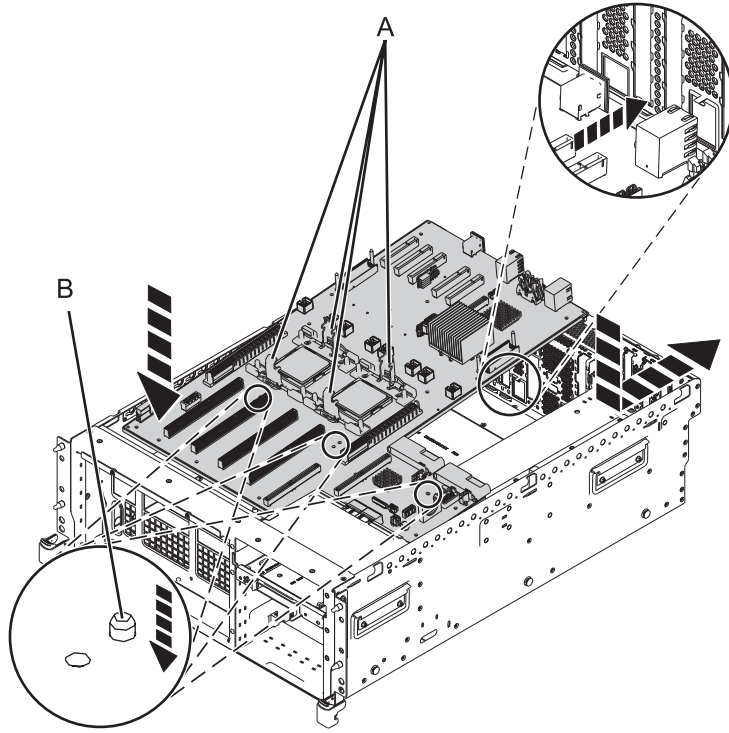

Figure 12. Installing the system backplane in the 8202-E4B or 8205-E6B
- a. Carefully grasp the replacement system backplane by both of the heat-sink load arms **(A)**. See Figure 12 on page 17.